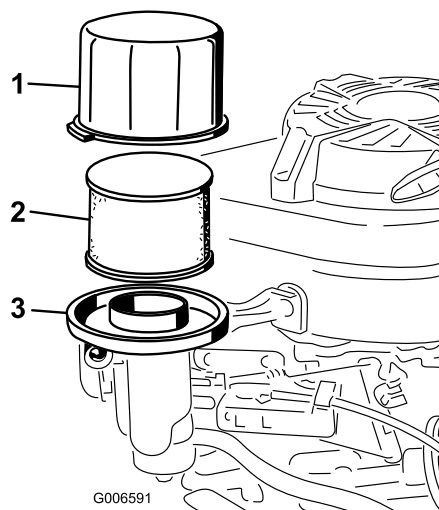

Figure 25
3. Remove the cover and clean it thoroughly (Figure 25).
4. Remove and inspect the paper air filter (Figure 25), and discard it if it is excessively dirty.
5. Remove the foam pre-cleaner and wash it with a mild detergent and water, then blot it dry (Figure 25).